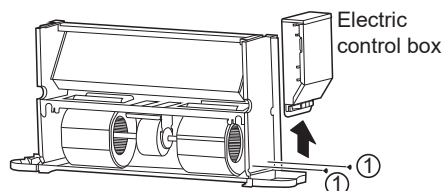

Figure 4-7 Removing the electric control box
- As shown in Figure 4-7, remove screws ①*2 to remove the electric control box.